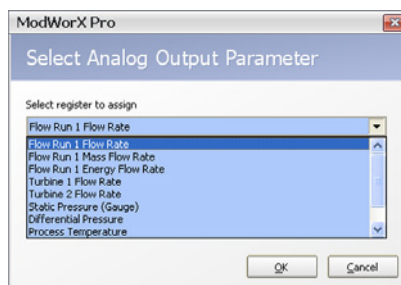

Figure 7.25
- Click **Select** to choose a parameter from the Select Analog Output Parameter dialog (Figure 7.25, page 108).